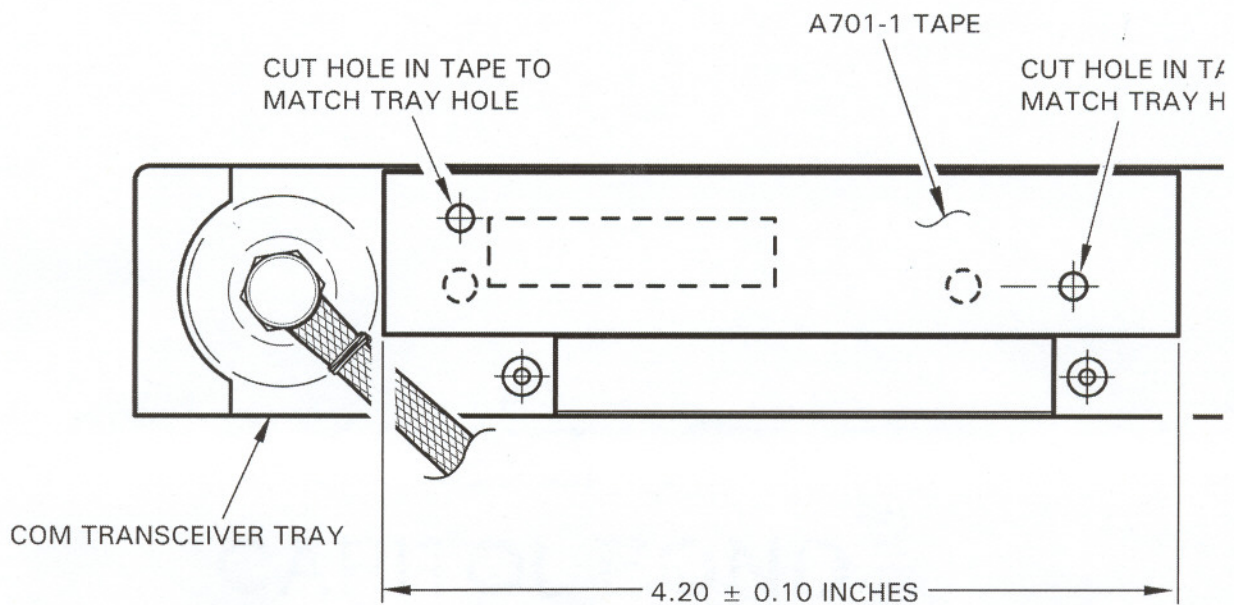

FIGURE 4 TRAY SHIELDING
7. Refer to Figure 4. Apply A701-1 tape to back of tray as shown.